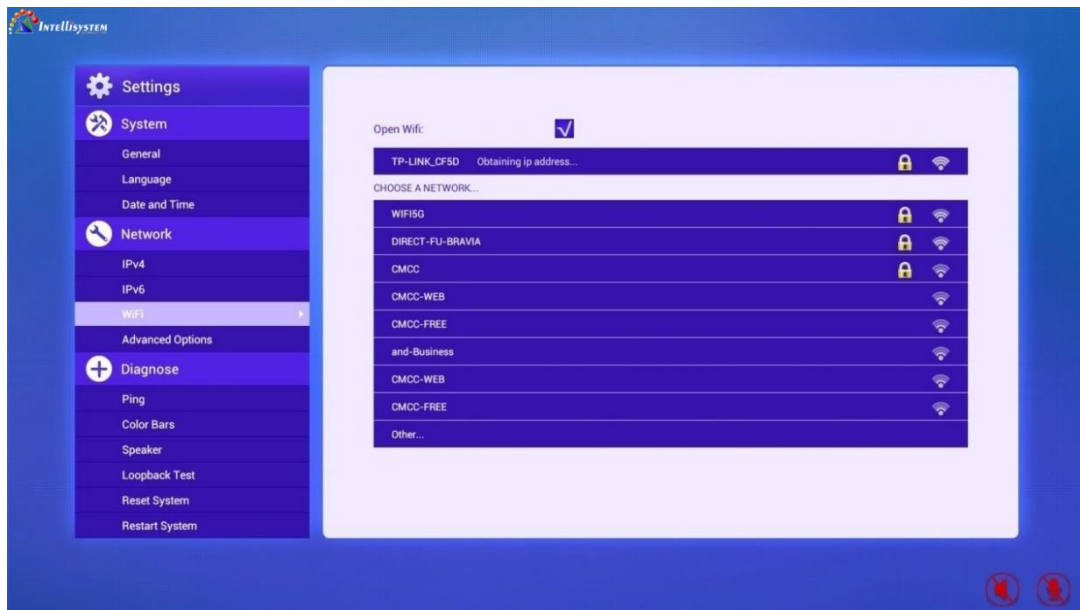

Figure 7-4-6
- If wired network is disconnected, the system will enable Wi-Fi automatically and search for available Wi-Fi network, as Figure 7-4-6 shows.